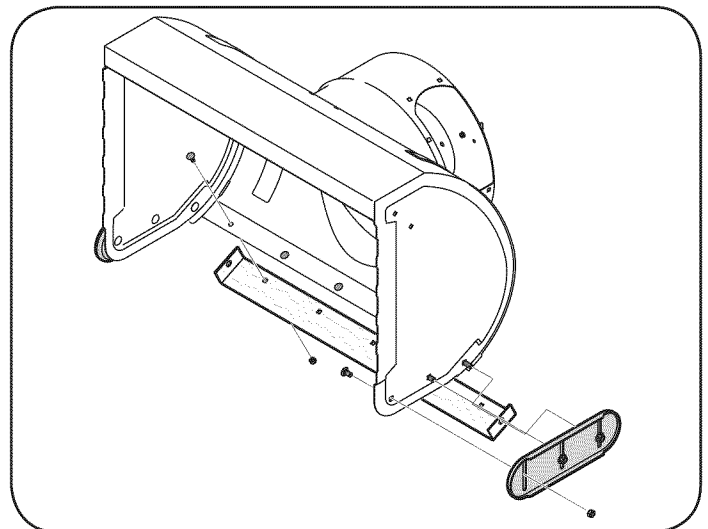

Figure 19
1. Remove the six carriage bolts and hex nuts that secure the two skid shoes to the sides of the auger housing. Refer to Figure 19.